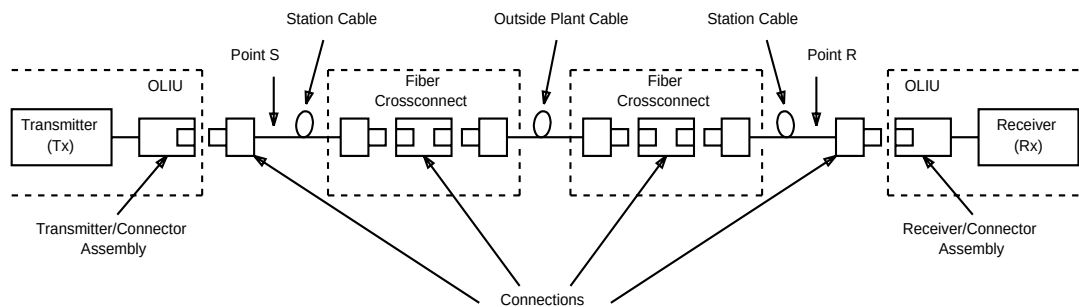

Figure 10-2. Optical System Interfaces (Points S and R)
The 26-type and 27-type OLIU long reach OC-1 interfaces support span lengths up to 44 km, assuming 0.45 dB/km single-mode fiber and the span engineering rules outlined in Table 10-4. Transmit and receive powers are referenced to Points S and R as shown in Figure 10-2. Table 10-2 and Table 10-3 provide detailed specifications and link budget information for the 26-type/27-type OLIU.
- * Transmit and receive powers are referenced to points S and R as shown in Figure 10-2.
The 28-type OLIU long reach OC-3 interface supports span lengths up to 51km, assuming 0.45 dB/km single-mode fiber and the span engineering rules outlined in Table 10-6. Transmit and receive powers are referenced to Points S and R as shown in Figure 10-2. Table 10-5 and Table 10-6 provide detailed specifications and link budget information for the 28-type OLIU.